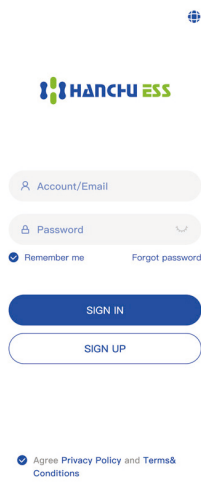

Fig. 1
- If you have already registered, you can log in directly . Then you can turn to "**9.2.2 Bind decives**".If you don't have an account yet, tap"**Sign up**" to register as shown in Fig. 1.